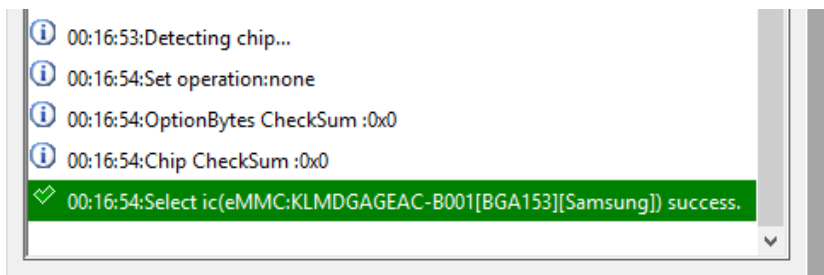
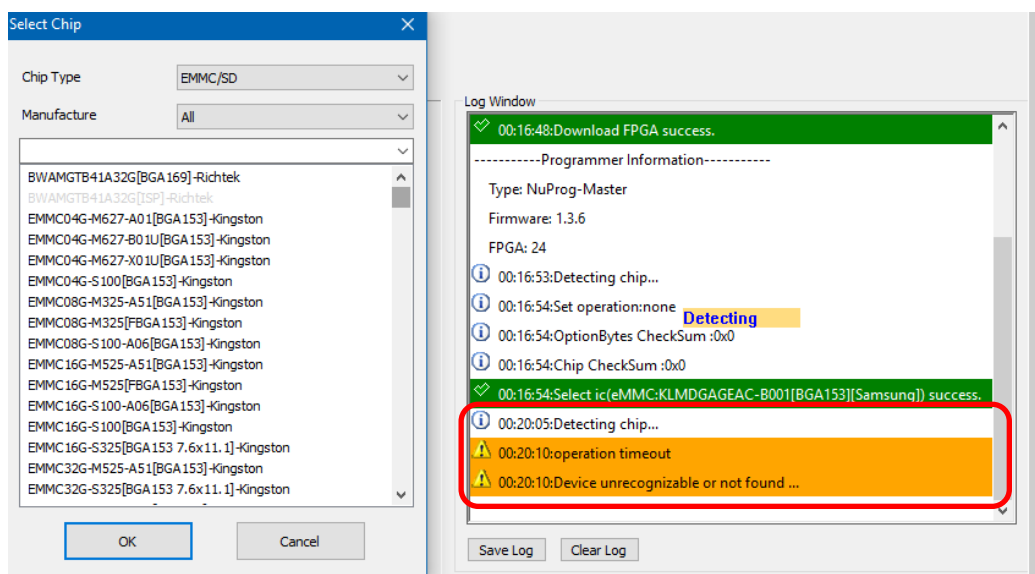

Fig. 5-55
Fig. 5-56
- **Detect:** Detect IC or choose the model number manually. If the data list has the corresponding model number that is supported, software will automatically import the values of the eMMC and the Log will appear as below (Fig. 5-55). If the IC model number that you need is not listed (Fig. 5-56, please feel free to contact us.